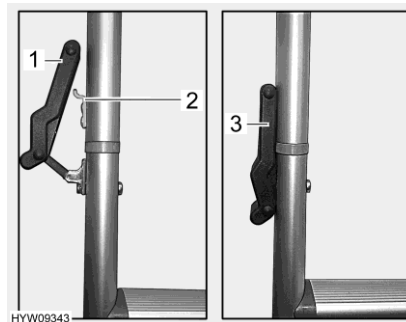

Fig. 57 Lock (access ladder)
- Hook the rubber fasteners (Fig. 57,1) into the hooks (Fig. 57,2) and press downwards on both sides. Make sure that the rubber fasteners (Fig. 57,3) are in firm contact to the side rails.
- Release the rubber fasteners (Fig. 57,3).